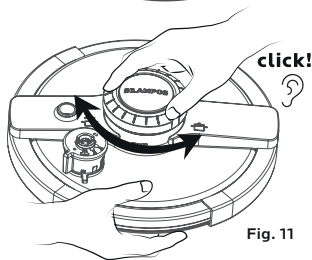

Fig. 11
- 10 - Lift the lid with one hand, and with the other, test the opening / closing button before using the lid. It should rotate in both directions, without difficulty, with a click at each limit (fig11).